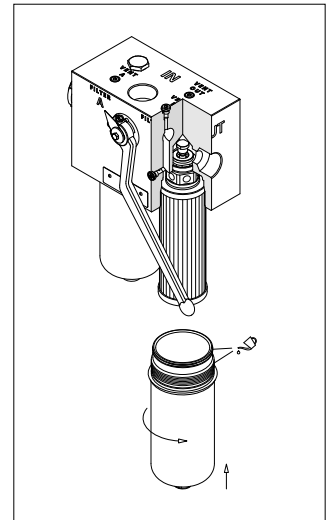

fig. 31
- (Fig. 31) Lubricate the thread and the O-ring of the bowl, then screw the bowl in referring to the tightening torque table in paragraph 3